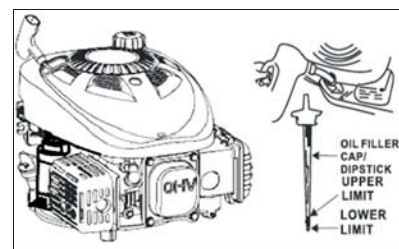

Fig. 9
- 5 Pour the recommended oil slowly into the oil fill. Do not overfill. After adding oil, wait for one minute and then check the oil lever by using dipstick. Oil lever should be between lower limit and upper limit (See Fig. 9).